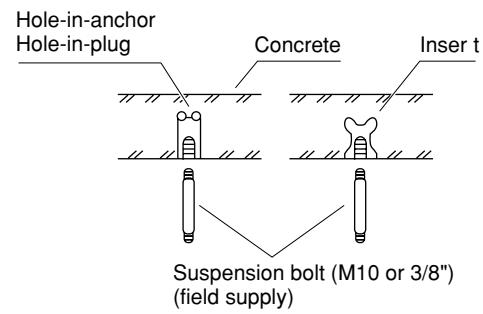

Fig. 3-99
- Insert suspension bolts as shown in Fig. 3-99
- (2) Screw in the suspension bolts allowing them to protrude from the ceiling as shown in Fig. 3-99.